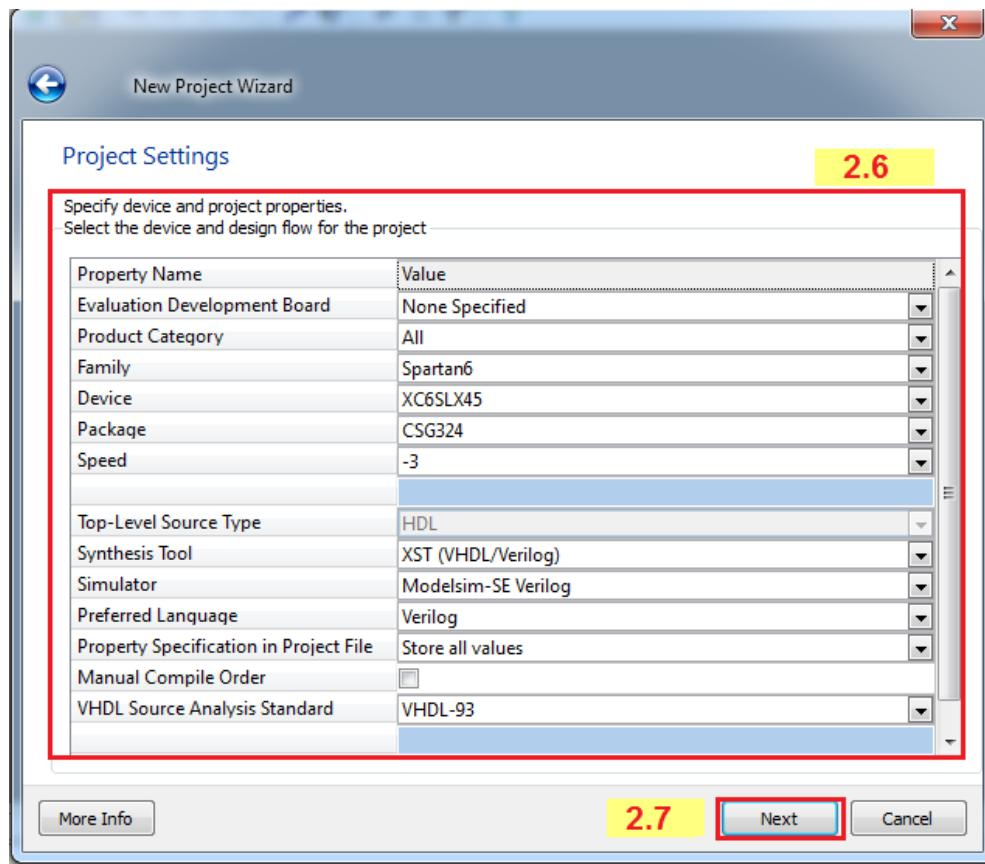

Figure 7. Project Setting page.
2.6. Select the following values in the Project Settings page: (see Figure 7)